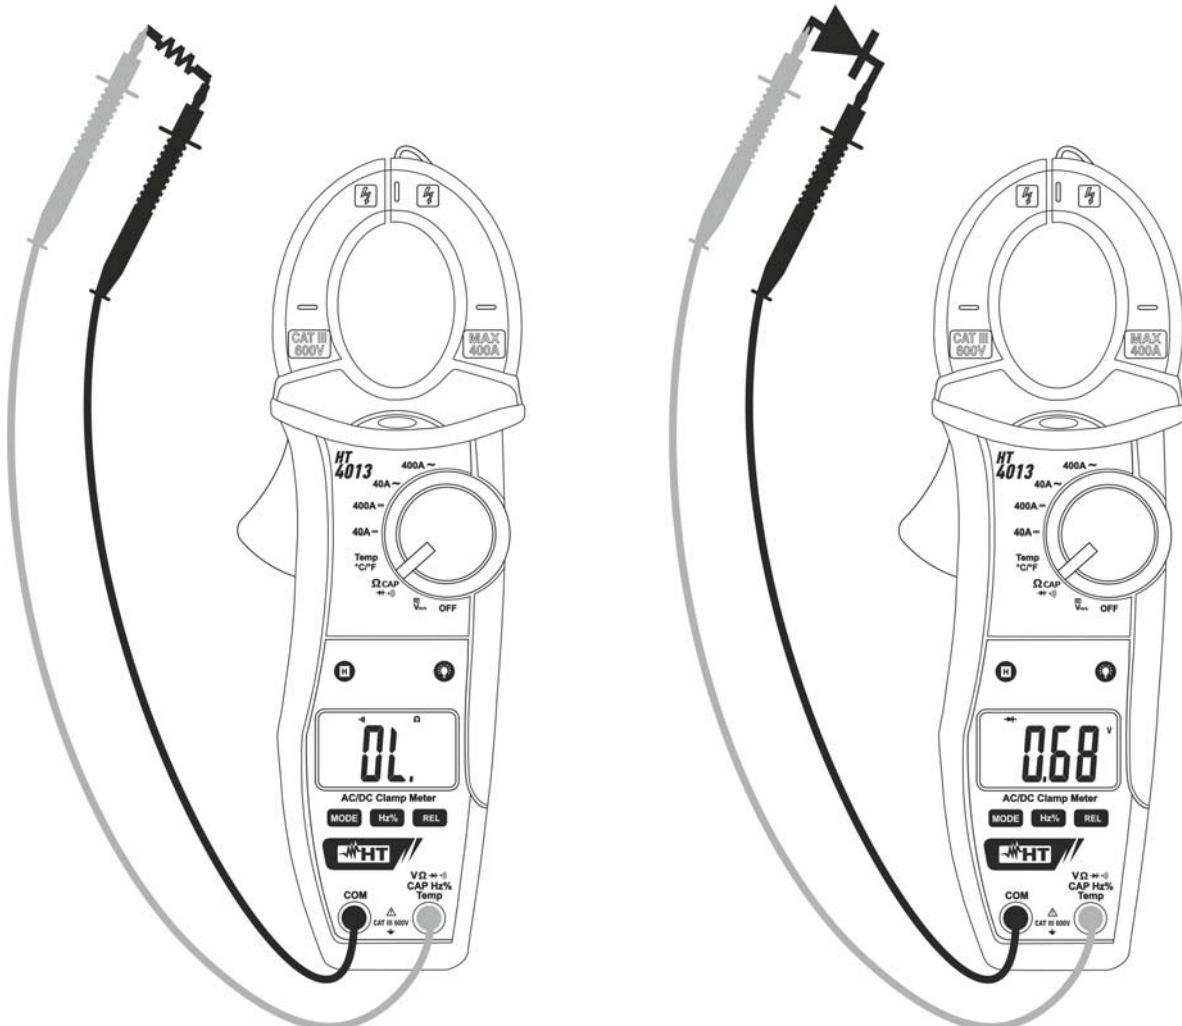

Fig. 7: Use of the clamp for continuity test and diode test
3. Insert the red cable into input terminal **VΩ▶+)**CAPHz%Temp and the black cable into input terminal **COM** and carry out the continuity test of the object to be measured (see Fig. 7– left side). An buzzer sounds when the measured value of resistance is lower than 150Ω
5. Connect the red lead to the anode of the diode and the black lead to the cathode in case direct polarization measurement is carried out (see Fig. 7 – right side). Invert the position of the leads in case reverse polarization measurement is carried out.